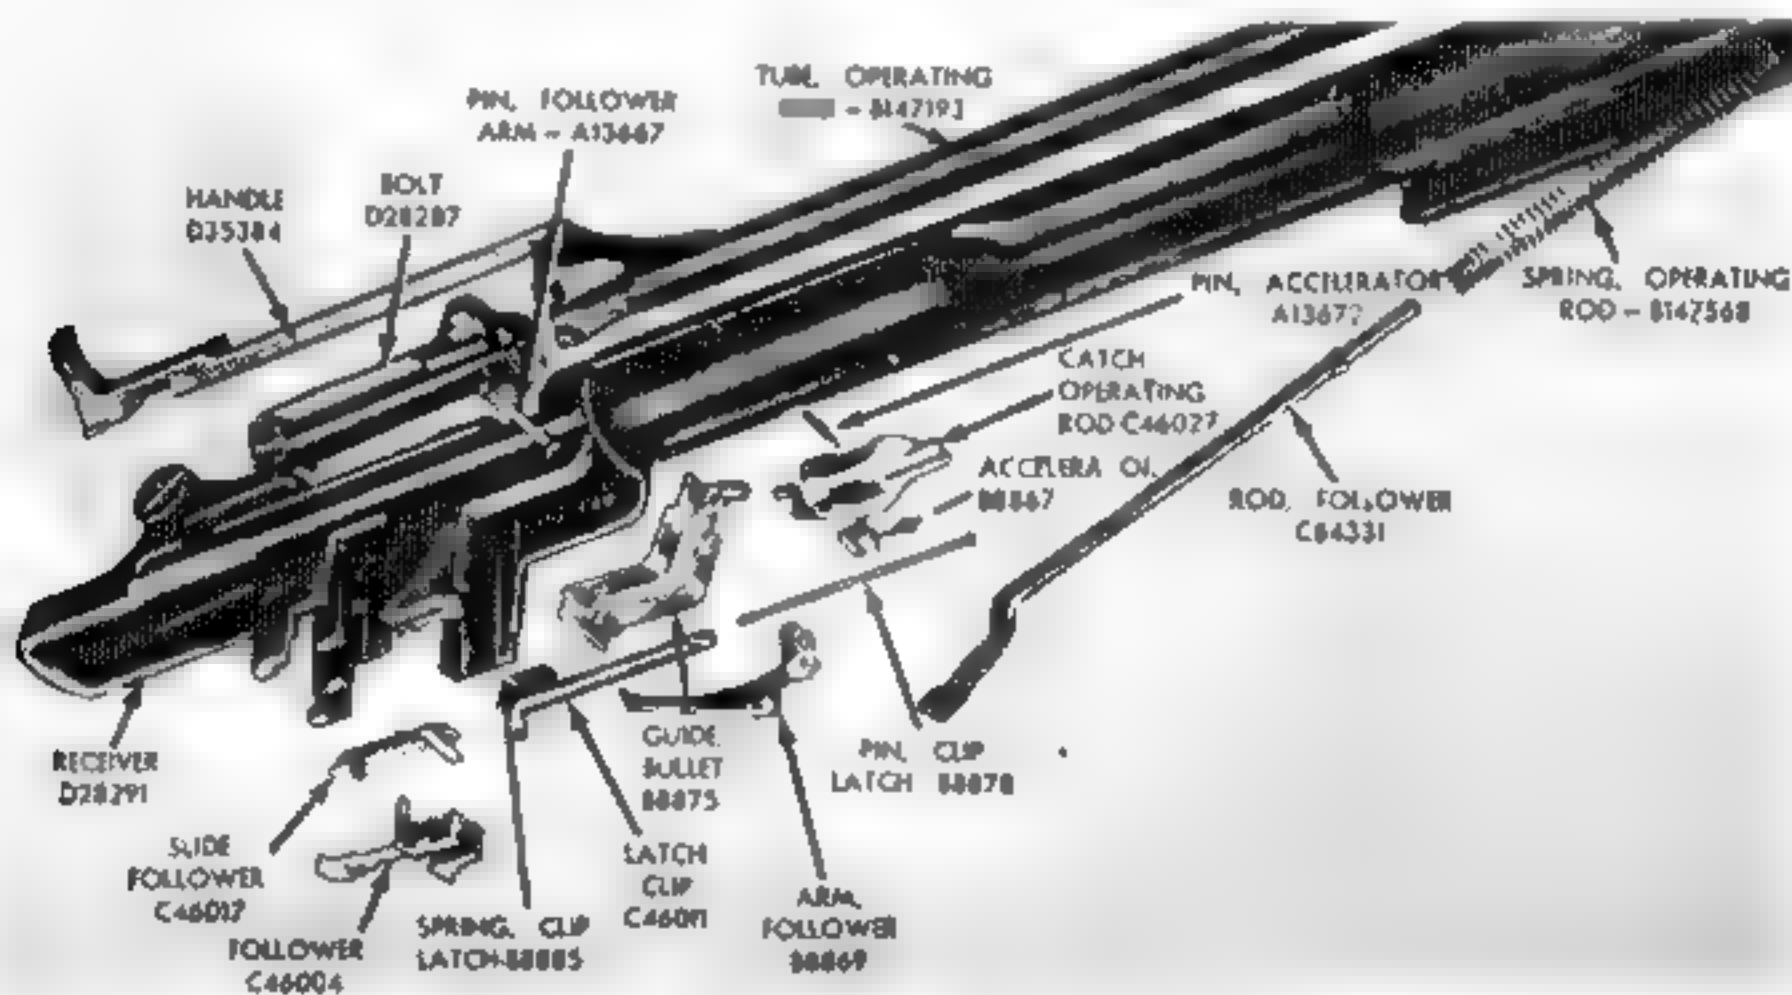
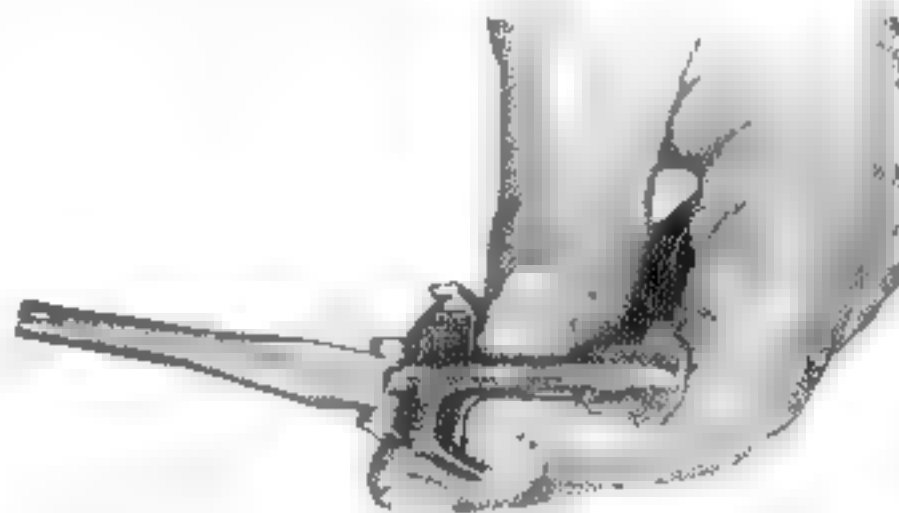

Fig. 111. Receiver group - disassembled view
Fig. 114. Removing follower slide from follower.
42. Follower and slide assembly: disassemble the follower and follower slide (Fig. 111) only when necessary to repair or replace parts. If necessary to disassemble, insert the blade of a screwdriver under the front end of the slide (Fig. 114), pry upward and forward, unlocking the slide from the follower